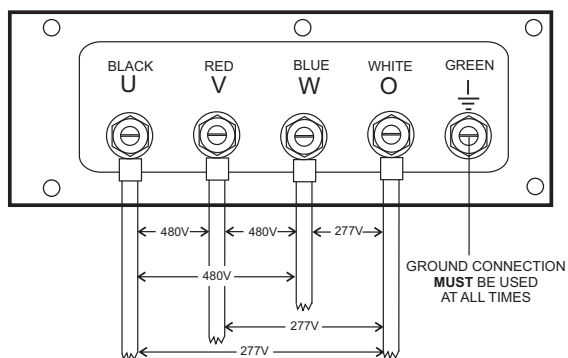

Figure 30. UVWO Terminal Lugs 3Ø-480V Connections
2. Connect the load wires to the UVWO terminals as shown in Figure 30.